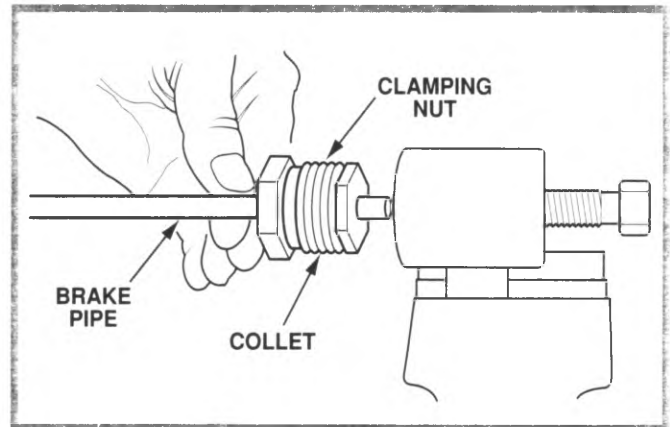

Figure 4-17, Clamping Nut and Collet
10. Slide the clamping nut over the brake pipe and insert the prepared brake pipe into the correct collet (figure 4-17). Leave approximately 0.75 in. (19 mm) of tubing extending out the collet. Insert the assembly into the tool body. The brake pipe end must contact the face of the forming mandrel.